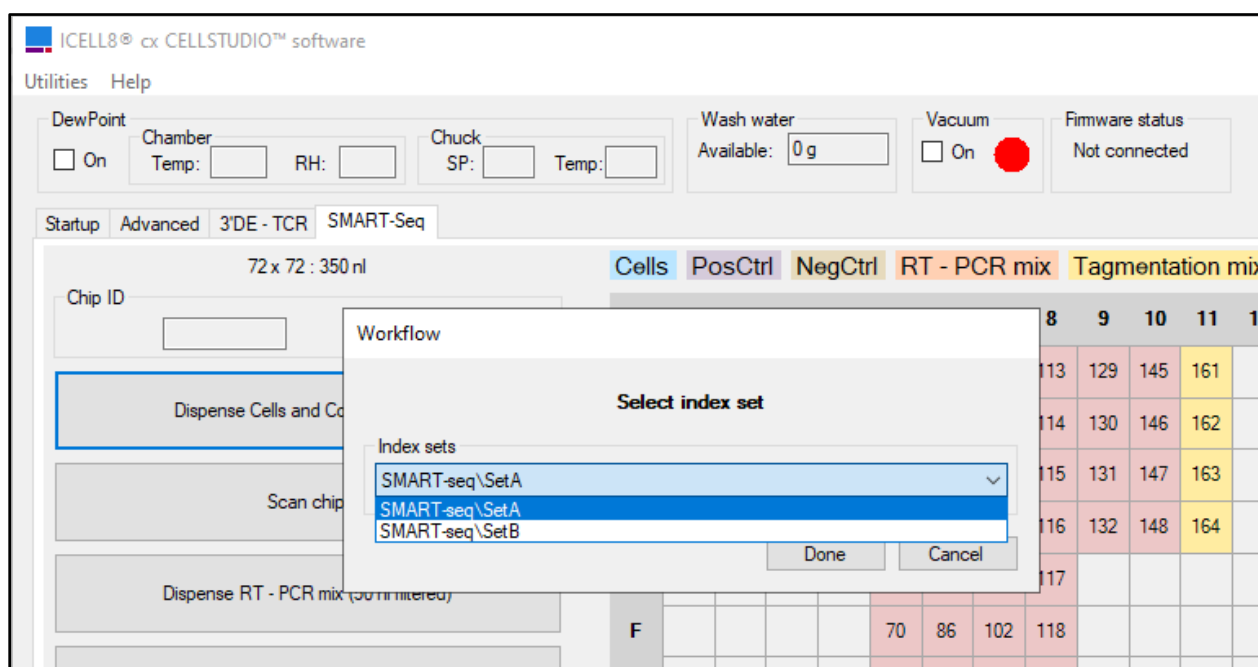

Figure 8. Select index set workflow prompt. The display defaults to using Set A. Ensure the correct one is selected before clicking [Done].
- b. For step 6, the *New stack* info dialog window will display (Figure 12, below). The “Barcodes” field will be grayed out because the barcode file is pre-configured within the during the Dispense (Section V.B, Figure 8).